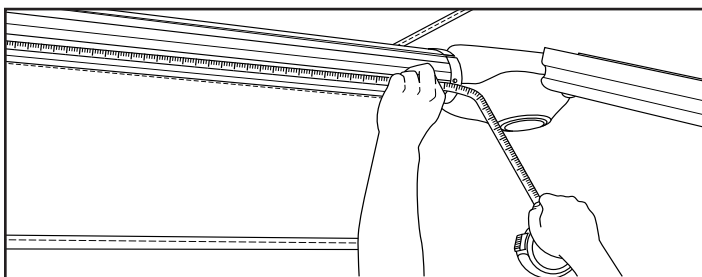

Fig.1
1. Measure the length of the roll tube (Fig.1).